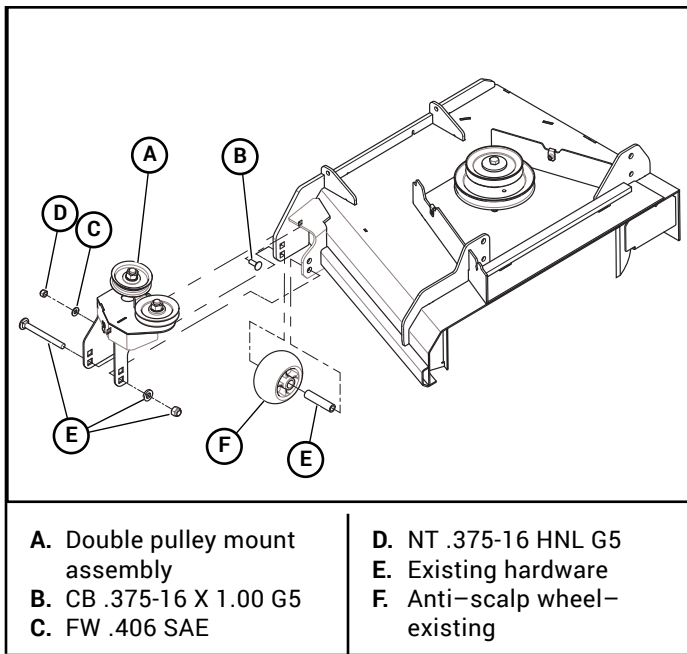

Figure 3-10
7. Attach the double pulley mount assembly to the deck using the hardware shown. Figure 3-10
8. Re-attach the anti-scalp wheel to the deck using the existing hardware. Figure 3-10